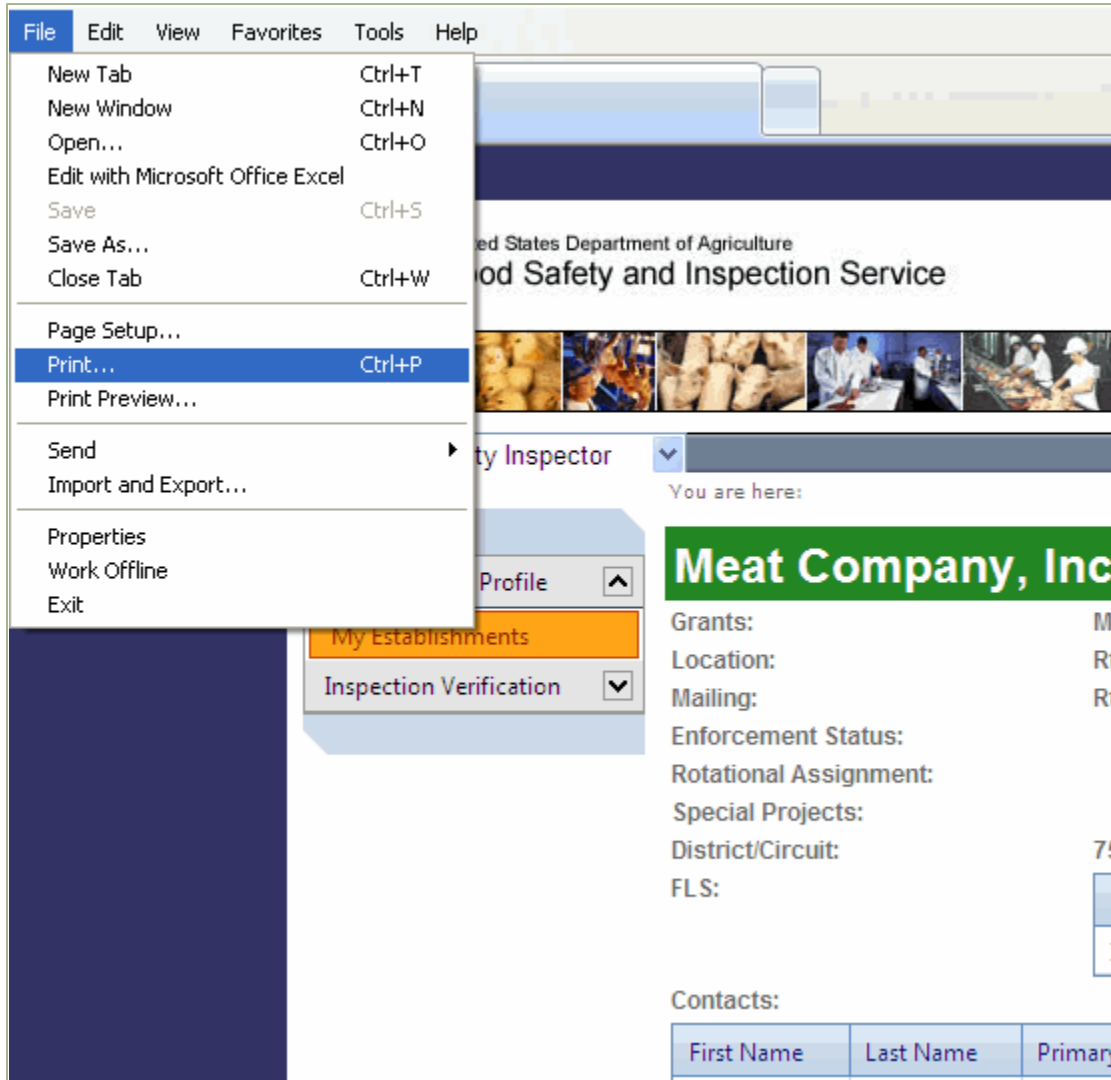

Figure 11: Printing to a Local Printer
2. From the list, select the Establishment that you want to work with. From your toolbar, select **File > Print** (see Figure 11).